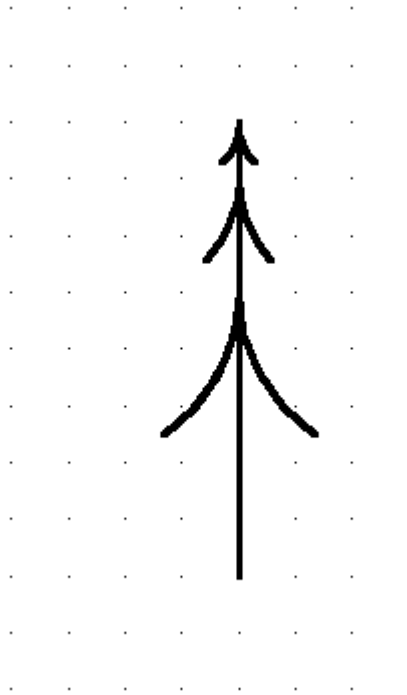

Figure CMS 1
4. Select **Draw|Arc|Center Start End**. Move to the top of the trunk and one grid point to the left and click. Click on the top of the trunk then move to the grid point vertically below the first (center) arc point and click. Move one grid point to the left of the last end point and click, then two grid points to the right (onto the trunk) and click, then two grid points vertically below the first (center) arc point and click. Move one grid point to the left of the last end point and click, then three grid points to the right (onto the trunk) and click, three points vertically below the first (center) arc point and click. Repeat for the three branches on the right hand side of the tree in mirror image. Your symbol should look like Figure CMS 1.